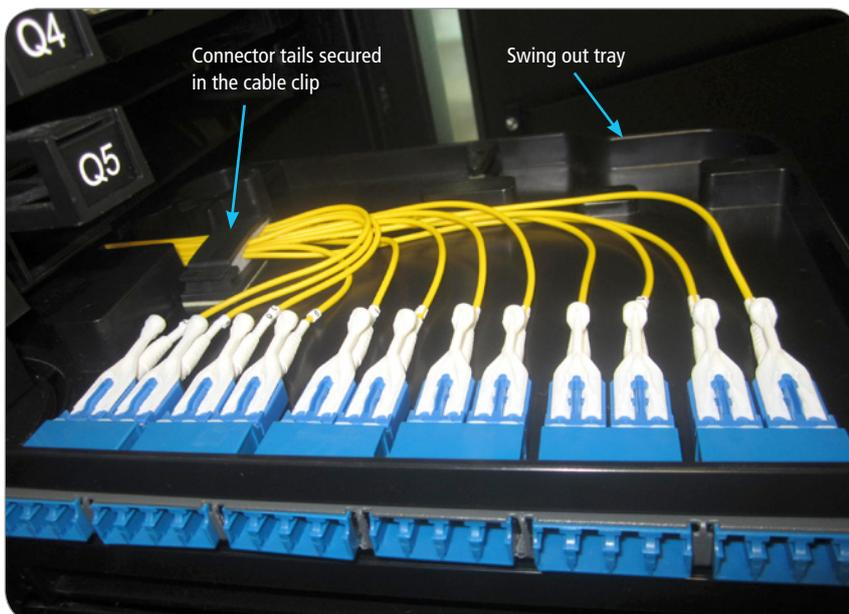

Figure 9.
- Install the cable clip into the swing out tray as shown in **Figure 9**
- Load all connectors into the adaptors, in the numbered sequence, as shown in **Figure 9**